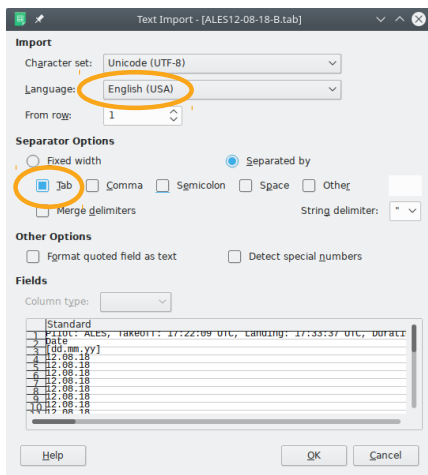

Figure 45: An example of Calc Text Import window.
5. Calc detects that a text file is being imported and it opens a window as shown in Figure 45. Please make sure that the *Tab* option is selected as the separator and *English (USA)* as the language. This makes sure that decimal values are properly imported.